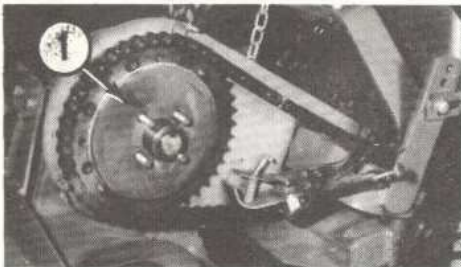

FIG. 39
- e. Remove pressure plate (1), Fig. 39.